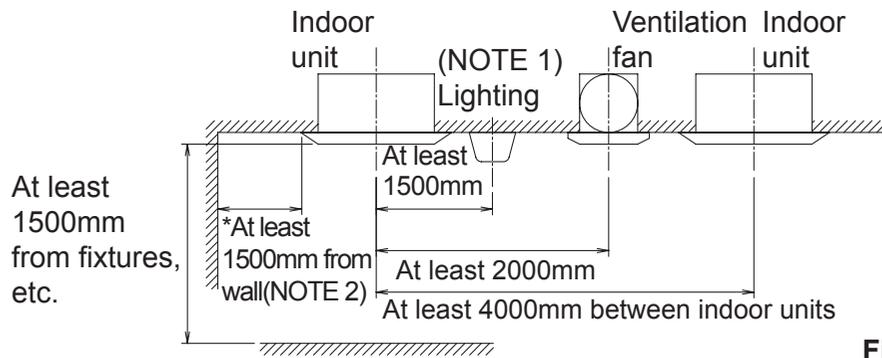

Fig. 3
- If there are ventilators, lighting fixtures, or other equipment nearby which might interfere with the air stream, the ceiling might become dirty, so install as per Fig. 3.